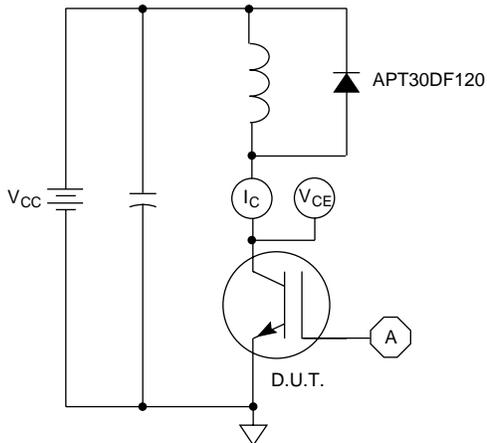

Figure 21, Inductive Switching Test Circuit
⑤ E_{on2} is the clamped inductive turn-on energy that includes a commutating diode reverse recovery current in the IGBT turn-on switching loss. (See Figures 21, 22.)
⑥ E_{off} is the clamped inductive turn-off energy measured in accordance with JEDEC standard JESD24-1. (See Figures 21, 23.)
⑦ Continuous current limited by package lead temperature.